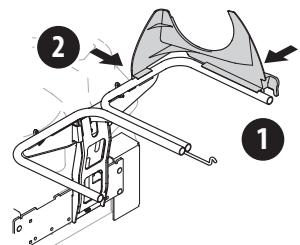

Figure 6
- Snap the plastic upper chute support in place by first clipping the side portion onto the bagger support rail (1) of Figure 6.
- Snap the front side of the chute support to the rail (2), as shown in Figure 6.